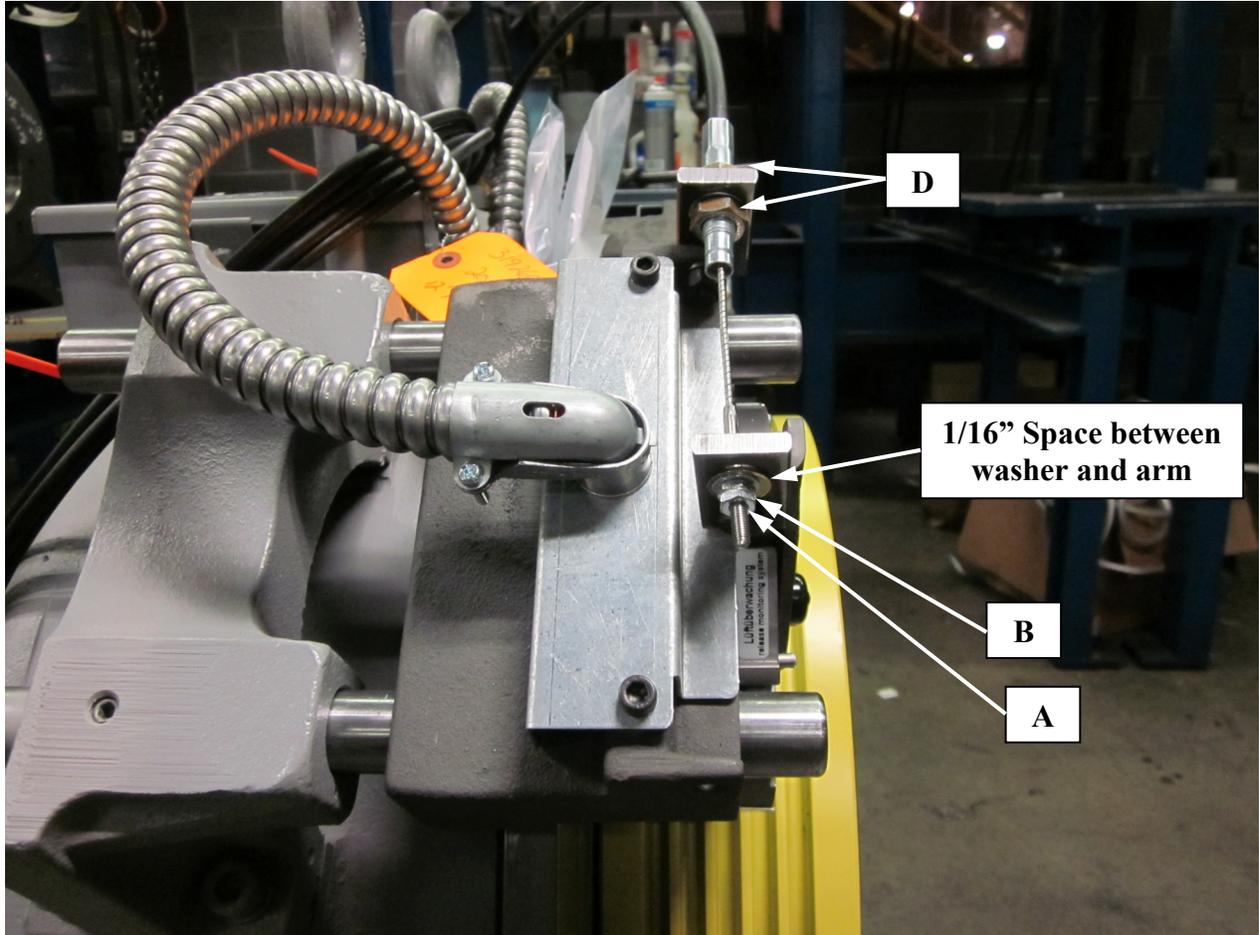

Figure 20
c. **Manual Brake Release Adjustments (if so equipped)** - See Figure 20